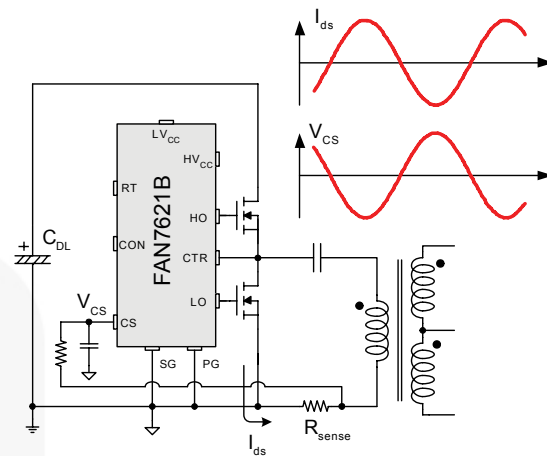

**Figure 24. Protection Blocks**
**5. Protection Circuits:** The FAN7621B has several self-protective functions, such as Overload Protection (OLP), Over-Current Protection (OCP), Abnormal Over-Current Protection (AOCP), Over-Voltage Protection (OVP), and Thermal Shutdown (TSD). OLP, OCP, and OVP are auto-restart mode protections; while AOCP and TSD are latch-mode protections, as shown in Figure 24.